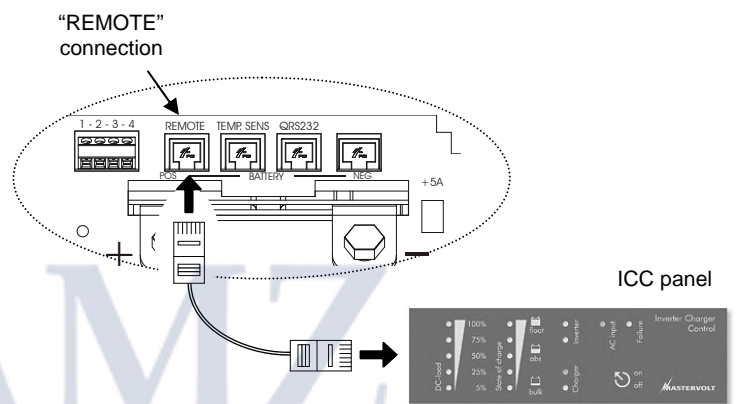

Figure 2
4. Connect the communication cable between the REMOTE connection of the Mass Combi and the Remote ICC (Figure 2).